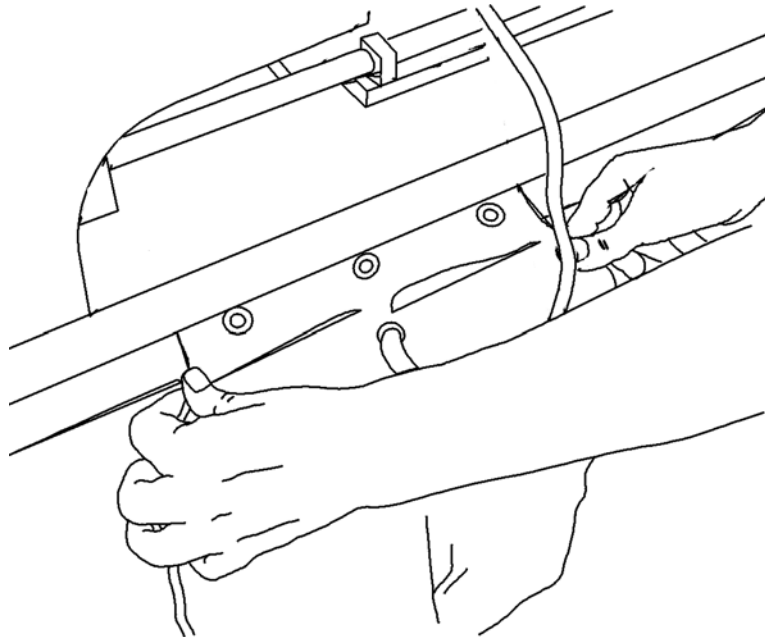

Figure 6-3: Hanging the waste collection bag on the COBE 2991
- 15** Hang the waste collection bag on the left side of the COBE 2991 by placing the three holes in the top of the bag over the three posts (Figure 6-3).